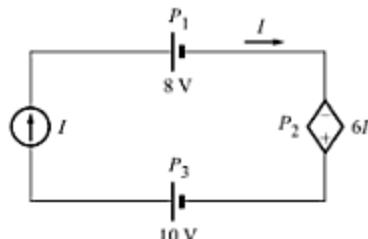

Fig. A-82
- A-41. For the circuit shown in Fig. A-82, determine the power absorbed  $P_1$ ,  $P_2$  and  $P_3$  for (a)  $I = 2\text{ A}$ , and (b)  $I = -3\text{ A}$ .